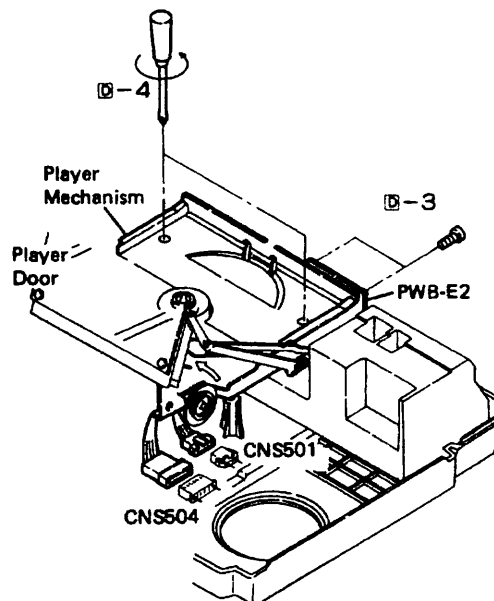

Figure 5-1
2. Pull out two sockets (CNS501, CNS504) shown in Fig. 5-1.
3. Remove two screws at PWB-E2 shown in Fig. 5-1.
4. Push the door open button to open the player door, loosen two screws at the player mechanism and take the mechanism off. See Fig. 5-1.